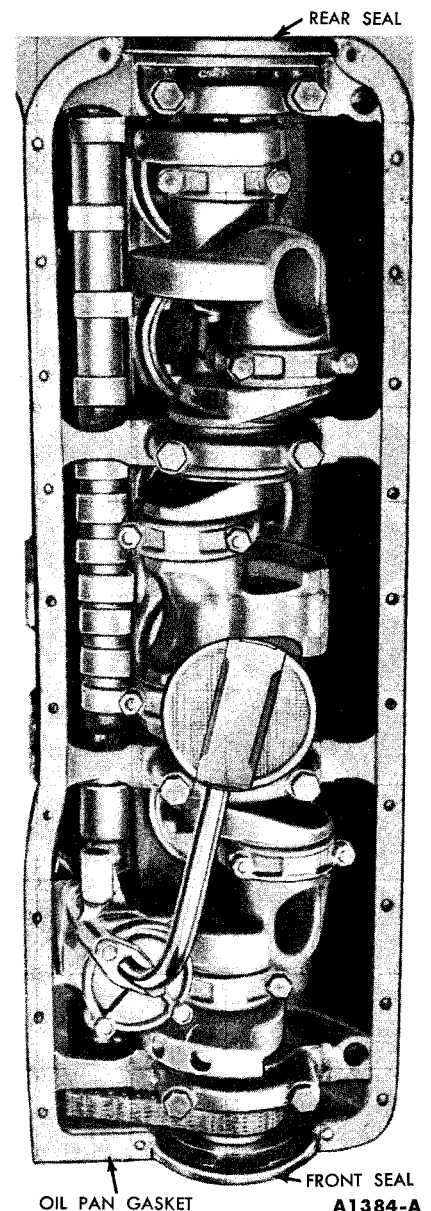

FIG. 70—Oil Pan Gasket and Seals Installed
2. Clean the gasket surfaces of the block and oil pan. The oil pan has a two-piece gasket. Coat the block surface and the oil pan gasket surface with sealer. Position the oil pan gaskets on the cylinder block (Fig. 70).
3. Position the oil pan front seal on the cylinder front cover (Fig. 70). **Be sure the tabs on the seal are over the oil pan gasket.**
4. Position the oil pan rear seal on the rear main bearing cap (Fig. 70). **Be sure the tabs on the seal are over the oil pan gasket.**